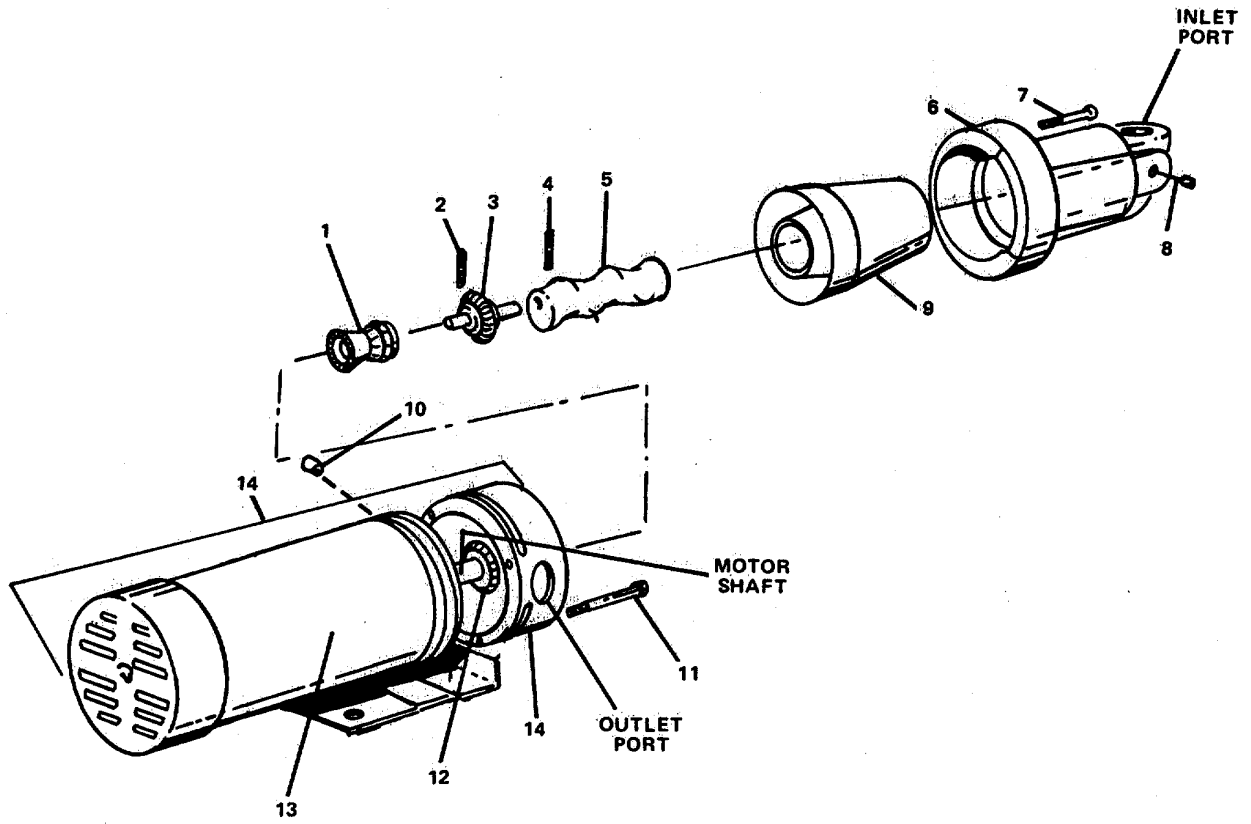

FIGURE 4-11. *Motorized Water Pump.*
- j. Position universal joint (3) on motor shaft with pin holes aligned. (Ensure that mechanical seal (1) is properly seated in pump body.)
- k. Install pin (2) by using a punch through outlet port on pump body to secure pin (2) on motor shaft.
- l. Position rotor (5) on universal joint (3) with pin holes aligned. Support rotor and universal joint when pin is installed.
- m. Install pin (4) by using a punch to secure rotor (5) to universal joint (3).
- n. Install stator (9) and stator ring (6) on rotor (5).
- o. Position housing (7) on pump body with mounting screw holes aligned. (Ensure that inlet port on housing (7) is vertically aligned with outlet port on pump body.)
- p. Install eight machine screws (8) and secure housing (7) to pump body.
**4-21. Repair Motorized Water Pump Assembly. (Figure 4-11)**